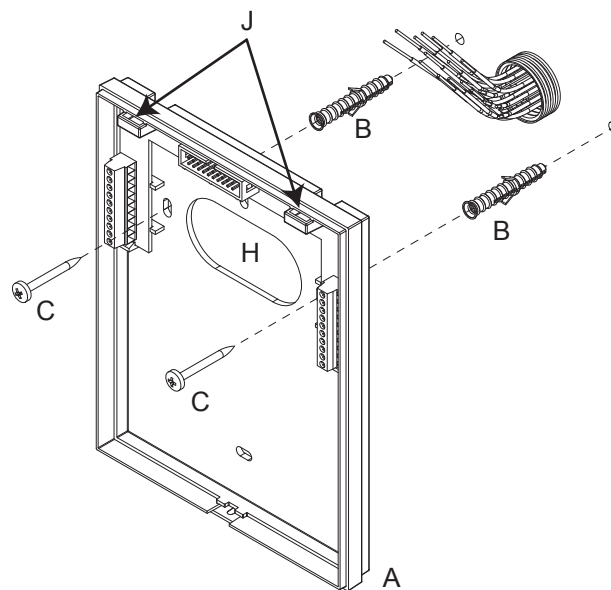
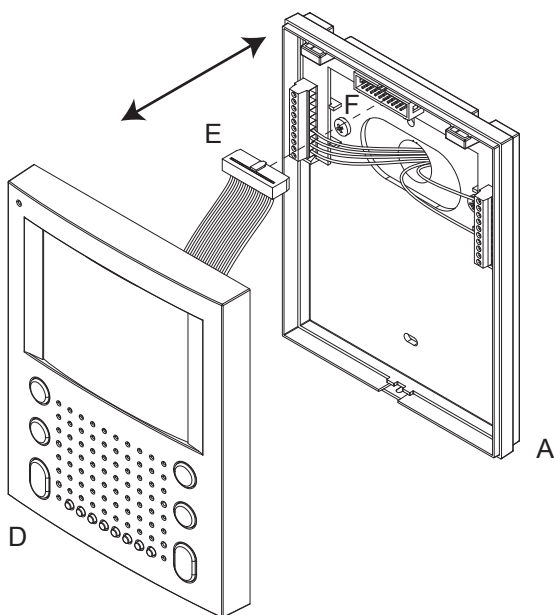
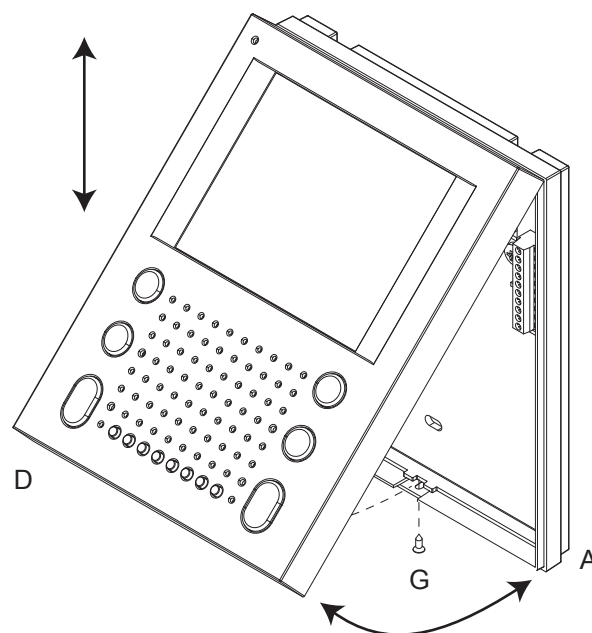

Fig. 2
Fig. 3
Fig. 4
⚠ In order to prevent water ingress we highly recommend using a silicon sealant between the plate and the wall (Fig. 3);
3. Fix the plate to the flush mounting box using the screwdriver provided (torx end) and the pin machine torx screws (**Fig. 4**).
1. To install Art.SL5456 it is necessary to open it. Follow picture **Fig. 4**: turn screw "G", pull cover "D" and lift it up (or push it forward if the videomonitor is in horizontal position), then disconnect plug "E" (**Fig. 3**) from plug "F" on the connection board housed on the bottom "A".
2. Leaving approximately 135cm from the finished floor, fit the bottom "A" against the wall and mark the fixing holes considering that the cables must be fed through the opening "H" (**Fig. 2**).
3. Make the holes, and fix bottom "A" on the wall using the two wall plugs "B" and the two screws "C" as shown in **Fig. 2**.
5. As shown in **Fig. 3**, move cover "D" close to bottom "A", connect plug "E" to plug "F" on the connection board then proceed with the next step.
6. Hook cover "D" to bottom "A" by using the two clips "J" (**Fig. 2**) as shown in **Fig. 4** then push down cover "D" towards bottom "A". Then proceed with system testing.
7. When finished the testing, fix cover "D" at the bottom "A" using the screw "G" (**Fig. 4**).